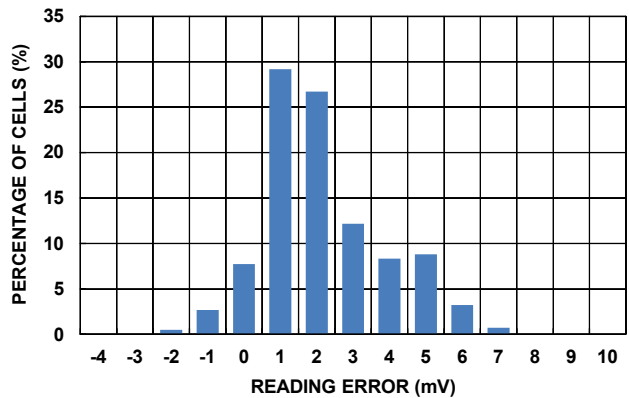

FIGURE 8. CELL READING ERROR FROM EVALUATION BOARDS AT CELL VOLTAGE FROM 2.6V TO 4.0V, AND -20°C TO +60°C HISTOGRAM
- Stresses may be induced in the ISL78610 during soldering or other high temperature events that affect measurement accuracy. Initial accuracy does not include effects due to this. See Figure 8 on page 16 for cell reading accuracy obtained after soldering to Intersil evaluation boards. When soldering the ISL78610 to a customized circuit board with a layout or construction significantly differing from the Intersil evaluation board, design verification tests should be applied to determine drift due to soldering and over lifetime.